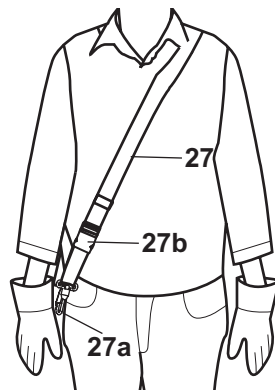
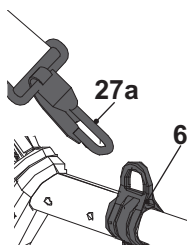

Fig. 19
Fig. 20
1. Place the harness (27) so that it runs over the left shoulder, crossing the chest and back. The securing clip (27a) must be located at the right hip. The quick release (27b) must be in front (Fig. 19).
2. Adjust the length of the harness (27) so that the securing clip (27a) is approximately 15 cm below your waist.
3. Attach the securing clip (27a) to the loop (6) (Fig. 20).